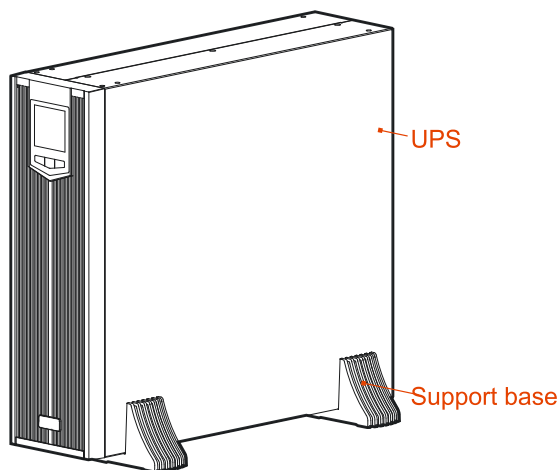

Figure3-5 Install the UPS
- Step 2 Put the UPS onto the assembled support base, as shown in Figure3-5.